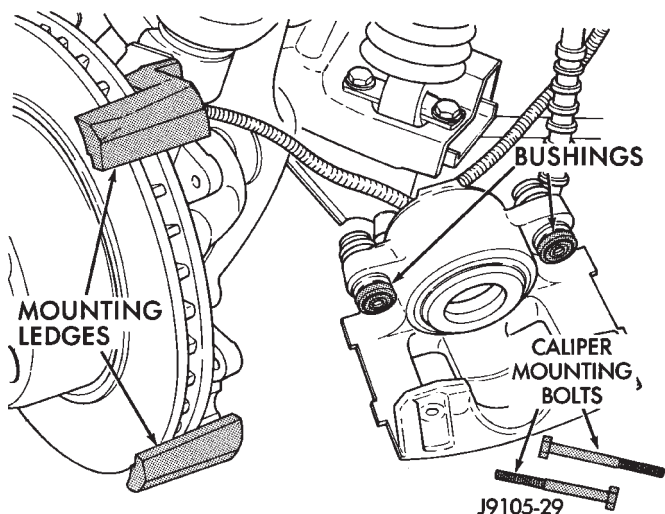

Fig. 28 Caliper Lubrication Points
(1) Clean brake shoe mounting ledges with wire brush and apply light coat of Mopar multi-mileage grease to surfaces (Fig. 28).